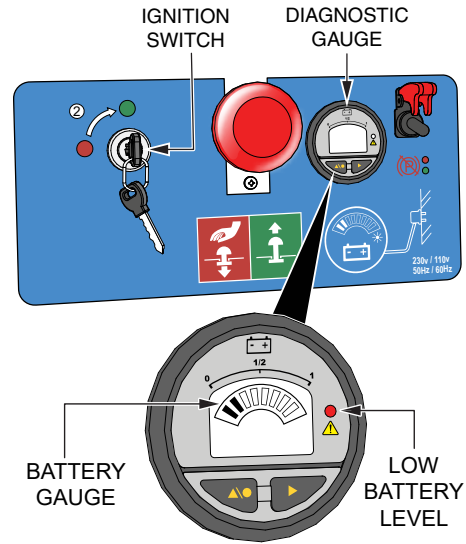

Figure 6. Ignition Key (Start)
2. Place the ignition key (Figure 6) in the **START** position. Verify that all segments of the diagnostic gauge illuminate for 1 second and then turn off. In addition, check battery voltage level. If low, recharge batteries.